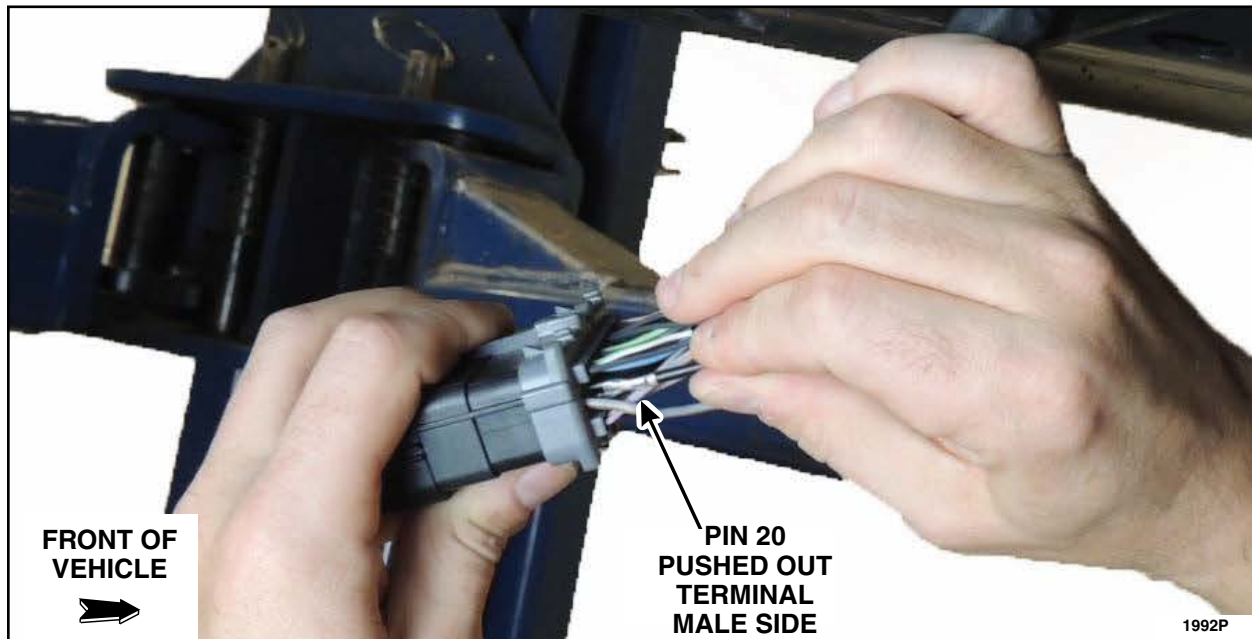

FIGURE 14
14. Were any of the wires in the center row of terminals on the male or female side of C422 pushed out of the connector hard shell and/or did the volt/ohm meters audible tone either stop or intermittently break up as you pulled on pin 20 (BK wire) in Step 10? See Figure 14.